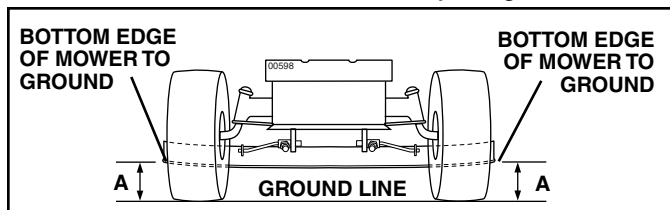

FIG. 20
**SIDE-TO-SIDE ADJUSTMENT** (See Figs. 20 and 21)